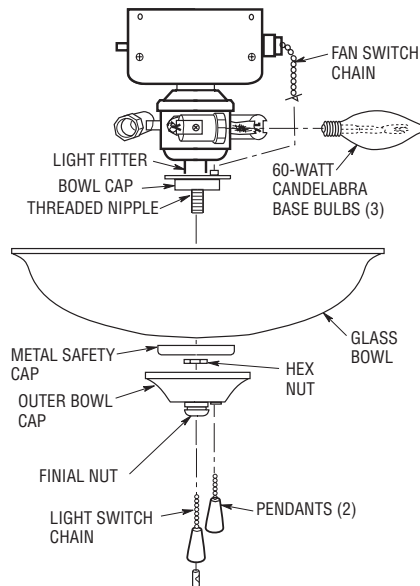

Figure 11
- 7. Install three 60-watt (maximum) candelabra base light bulbs (included) into the light fitter sockets (Figure 11).
- 8. Remove the finial nut, hex nut, metal safety cap, and outer bowl cap from the light fitter (Figure 11).
- 9. Pass the fan switch chain through the bushing in the bowl cap (Figure 11).
- 10. Position the glass bowl over the threaded nipple. Slide the metal safety cap onto the threaded nipple and gently tighten the hex nut to secure the glass bowl and metal safety cap. Set the bowl cap over the metal safety cap and against the glass bowl. Pass the fan pull chain through the bushing in the outer bowl cap and install the cap on the threaded nipple. Install finial nut finger tight (Figure 11).